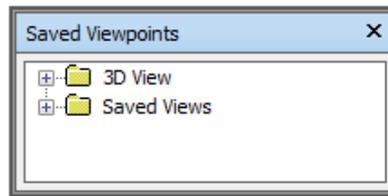

Figure 3-33 The Saved Viewpoints window
1. Choose the **Saved Viewpoints Dialog Launcher** button from the **Save, Load & Playback** panel of the **Viewpoint** tab; the **Saved Viewpoints** window is displayed, as shown in Figure 3-33.
1. Choose the **Saved Viewpoints Dialog Launcher** button from the **Save, Load & Playback** panel of the **Viewpoint** tab; the **Saved Viewpoints** window is displayed, refer to Figure 3-33.